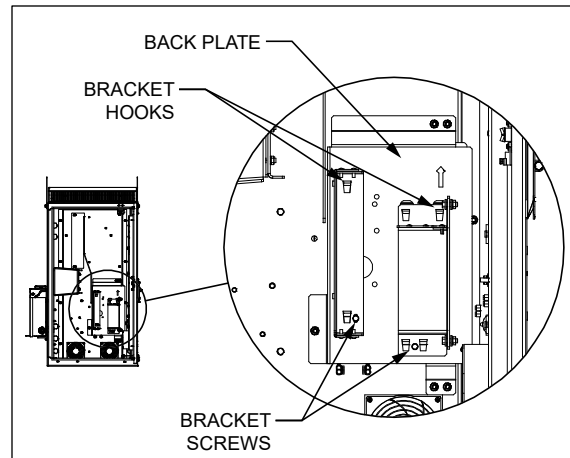

Figure 10 Hook Mounted Brackets
1. Remove the bracket by removing the screw near the bottom of the bracket and then lifting the bracket hooks off the holes in the back plate (Figure 10). Save the screws.